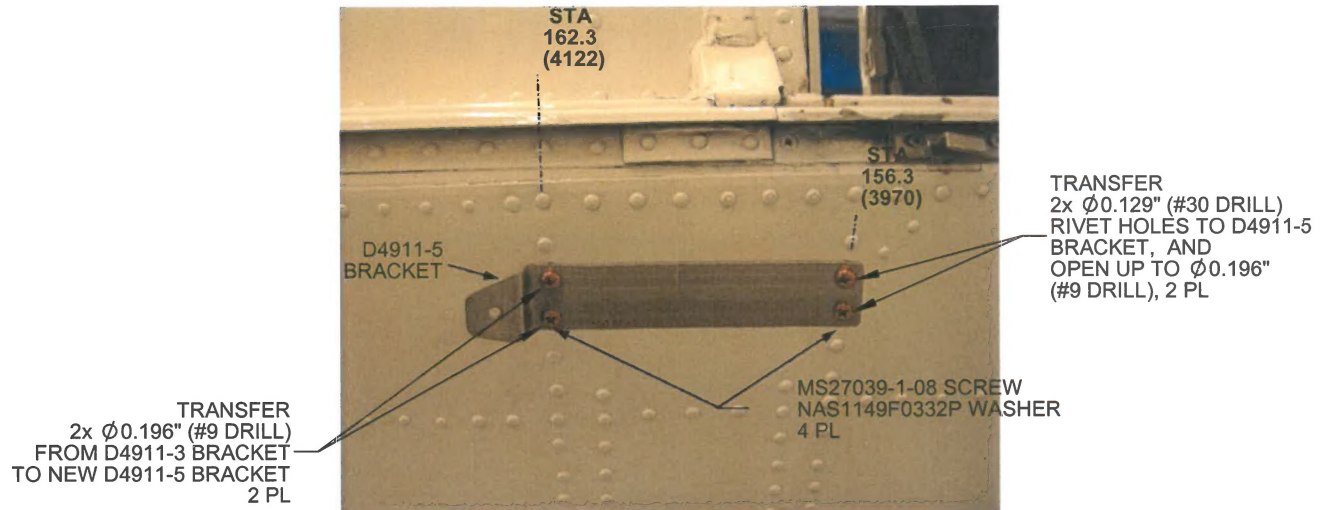

FIGURE 1. D4911-5 BRACKET INSTALLATION
- 3.2 Using D4911-3 Bracket as a template, transfer 2x $\varnothing 0.196$ " (#9 drill) holes from D4911-3 to new D4911-5 Bracket as shown in Figure 1.
- 3.3 Using the D4911-5 as a template, remove two rivets at STA 156.3 (3970) under the D4911-5 Bracket. Transfer drill these rivet holes to the D4911-5 Bracket as shown in Figure 1. Enlarge rivet holes to $\varnothing 0.196$ " (#9 drill) in the aircraft rib and on the D4911-5 Bracket. Transfer $\varnothing 0.098$ " (#40 drill) for MS21069L3 anchor nut and c/sink/dimple holes for NAS1097AD3-(4) rivet as shown in Figure 2. Deburr and touch-up aircraft holes with Alodine 1200/1201 per MIL-C-5541.
- 3.5 Install D4911-5 Bracket into the aircraft ribs using 4x MS27039-1-08 screws and 4x NAS1149F0332P washers as shown in Figure 1. Torque screws to 20-25 in-lbs (2.3-2.8 N-m).